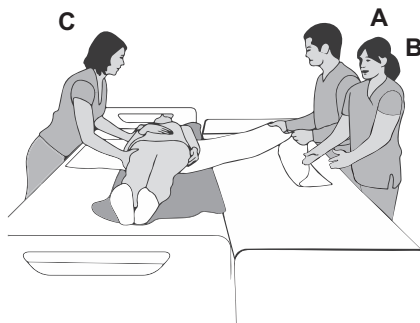

Figure 14
6. (Caregivers A and B) Simultaneously pull the draw sheet and secure the transfer by standing at the receiving side. (**See Figure 14**)